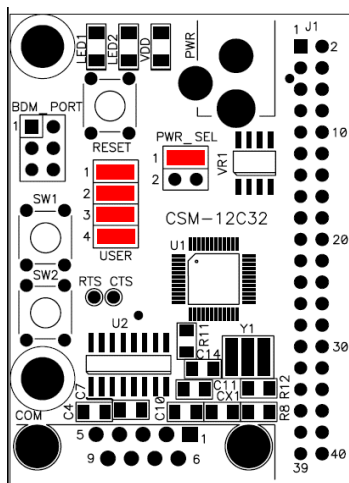

Figure 1. Application Module Jumper Settings
1. Verify that all the jumper settings are configured properly on the application module as shown by Figure 1. Application Module Jumper Settings. Highlighted blocks indicate the on or installed position of jumpers. Table 1 summarizes the default state for the jumper settings. Please refer to project board user guide for more details and alternative configurations.